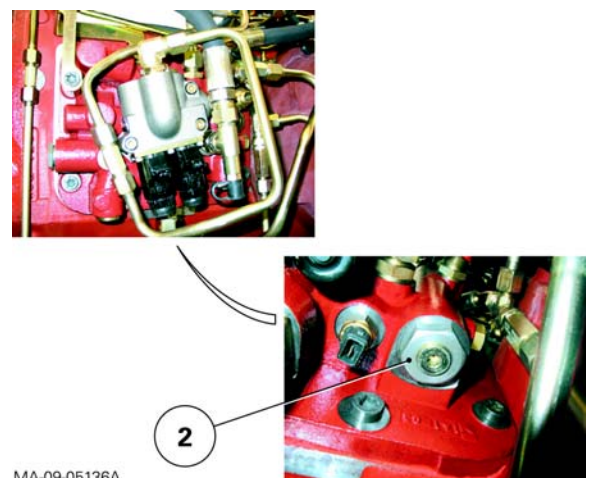

Fig. 3
- operating pressure for the various transmission components via a 17 bar valve (2) (Fig. 3) fitted downstream from the Orbitrol unit;